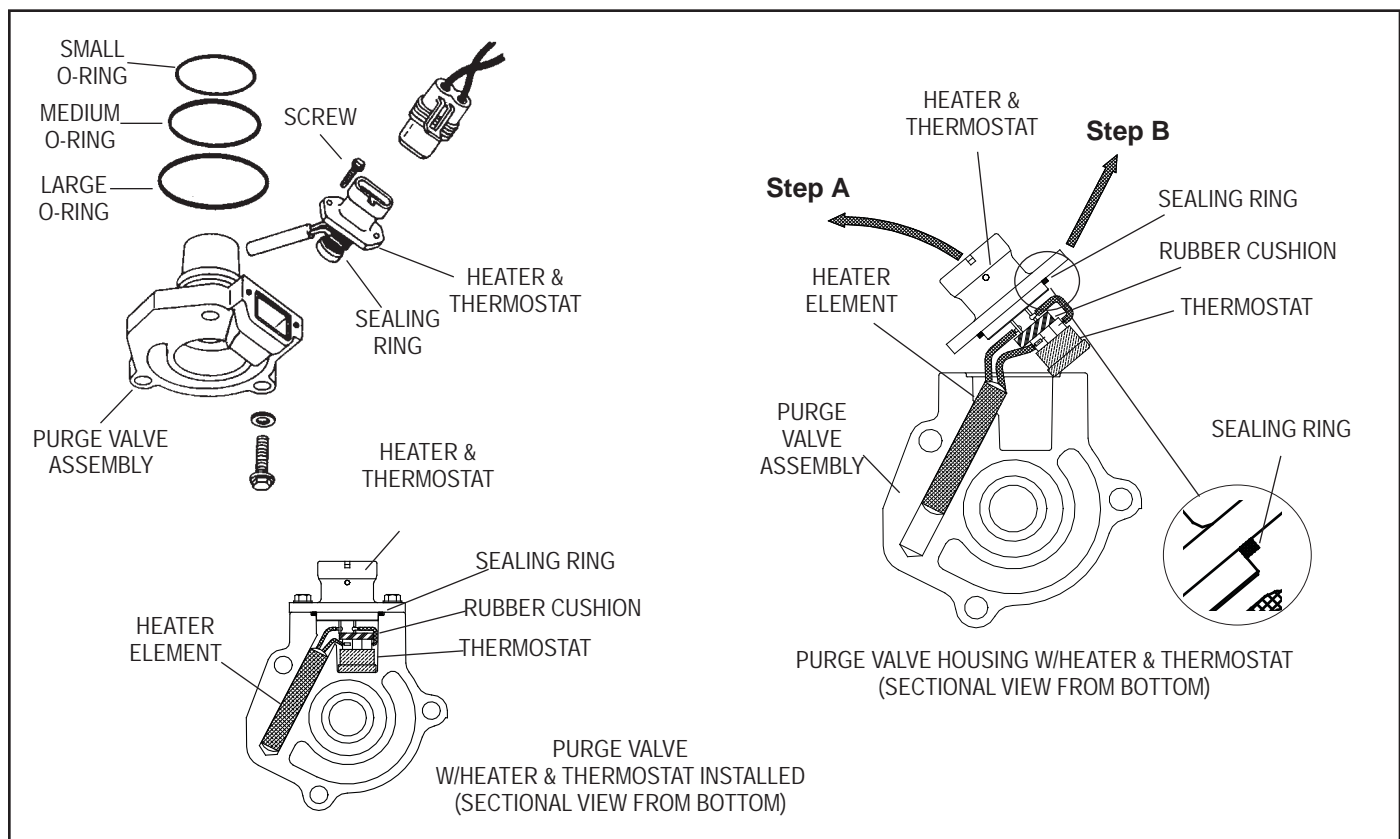

FIGURE 10 - HEATER & THERMOSTAT REMOVAL & INSTALLATION
2. Study Figure 10 closely and note the "Y" shape of the Heater & Thermostat assembly in its installed position in the purge valve housing. As illustrated, remove the heater & thermostat assembly by gently "rotating" the connector to the left (Step A) until the thermostat clears the purge valve housing, then slide the heater element out, to the right and up (Step B).